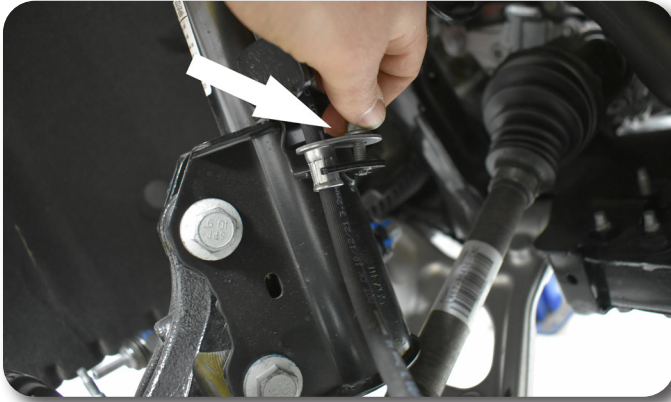

Figure 10
16. Reconnect the brake line bracket to the strut. **Figure 10** Torque to 97 in-lbs.